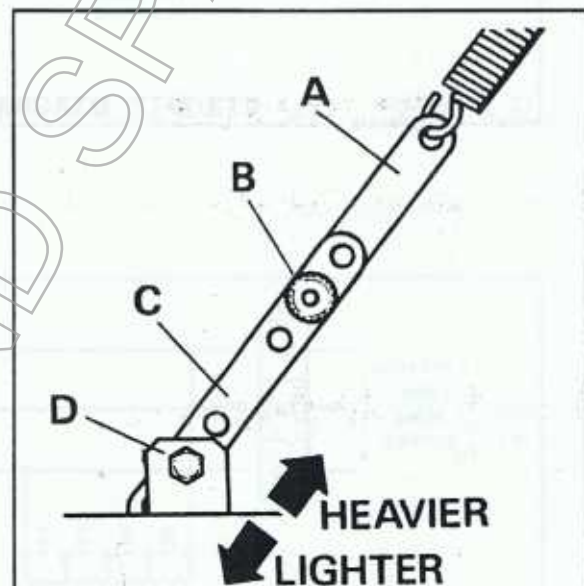

Fig.8.
- Before checking the head weight, adjuster 'A' should be in the appropriate hole as shown in Fig.8 and knirled knob 'B' secured in place.
Raise head and close 'Feed Speed' control valve. Remove hex. screw 'D' and replace into the appropriate hole in link 'C' (see Fig.8).